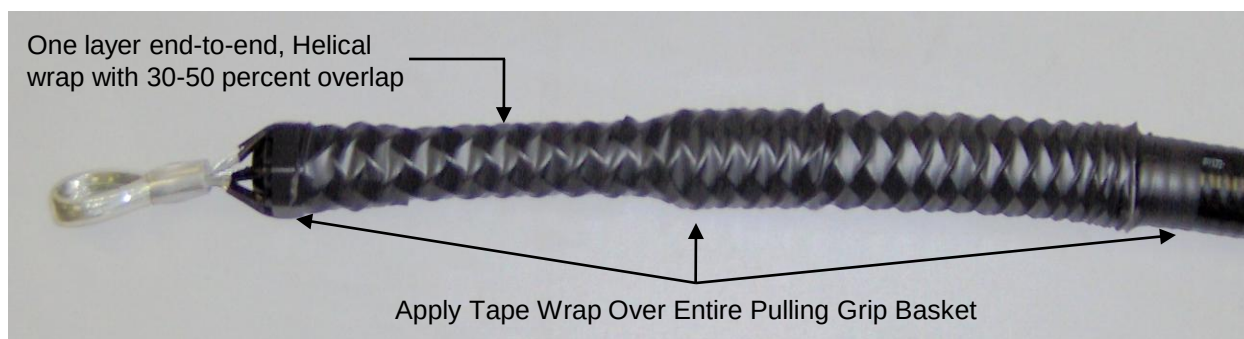

Figure 36
26.9 Apply Vinyl Electricians or Duct Tape over the entire length of the Pulling Grip's basket. Start the wrap on the Polyethylene outer jacket of the cable and move to the head end of the cable. Apply one layer of tape end-to-end with a Helical wrap and a 30-50 percent overlap. **See Fig. 36.**